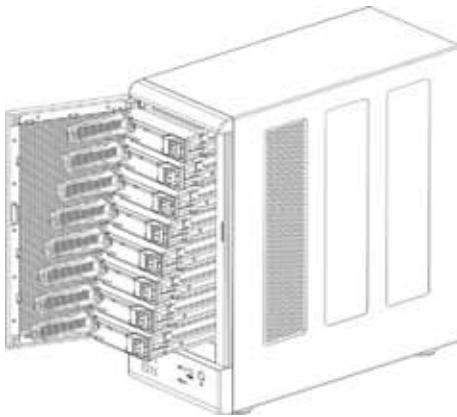

Fig. 4
4. Slide the HDD mounting frame back into the 8-BAY RAID STATION (fig. 4).